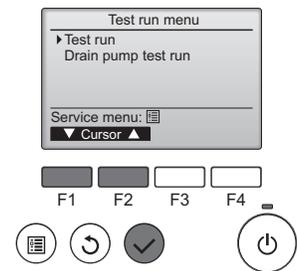

Fig. 9-2
- ② Select "Test run" from the Test run menu, and press the [SELECT] button. (Fig. 9-2)
- ③ The test run operation starts, and the Test run operation screen is displayed.